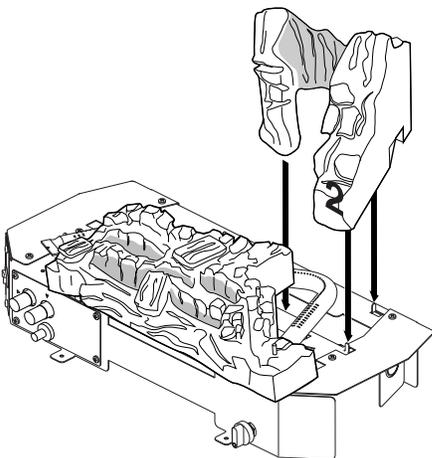

Figure 24 - Installing Log #2 (Model VGX30NT Shown)
2. Place log #2 over the right portion of the back burner and onto the two tabs on the right side of the base as shown in Figure 24.